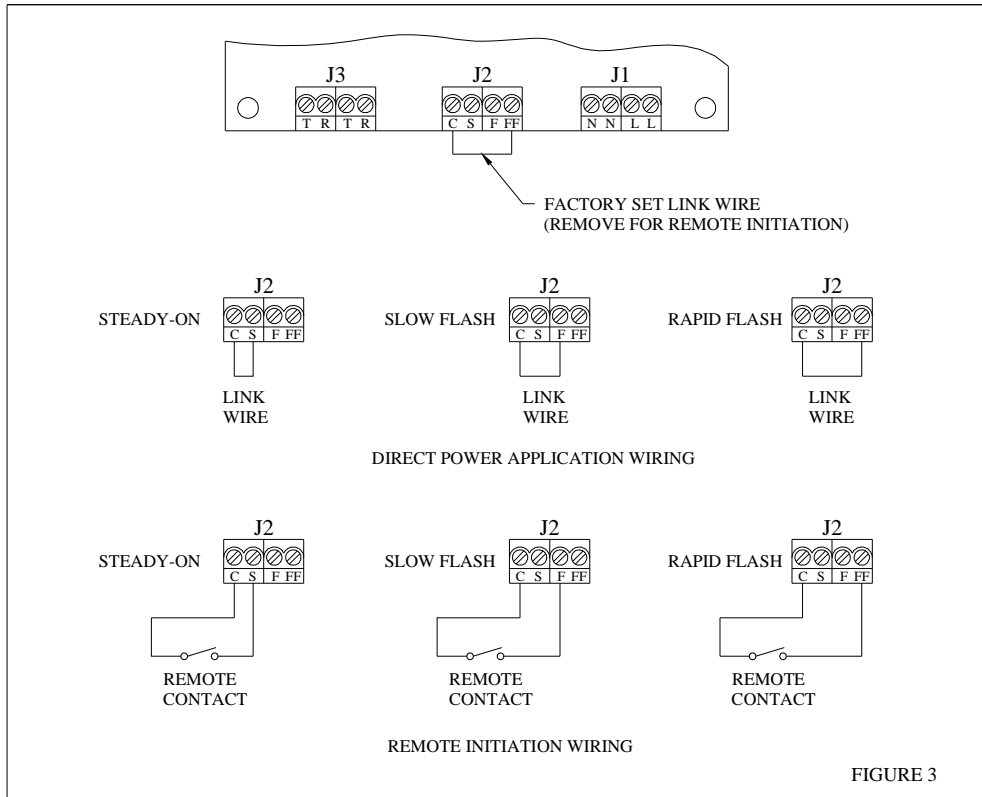

FIGURE 3
- b. Remove the factory link wire from the J2 terminal block. Connect remote activation wiring to the J2 terminal block as indicated in Figure 3 (EEx d) or 4 (EEx de). Remote activation is accomplished by applying a dry contact closure at the J2 terminal block between the C terminal and one of the S (steady), F (slow-flash), or FF (rapid-flash) terminals.
- b. Unit is factory set to rapid flash mode by the link wire located on the J2 terminal block. If a different operating mode is desired, move one leg of the jumper to the desired position as shown in Figure 3 (EEx d) or 4 (EEx de).